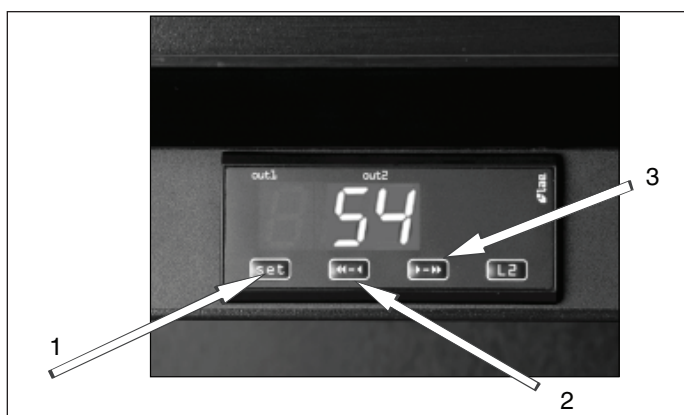

Figure 3-1.
1. Press button [1] (See Figure 3-1). While pressing button [1] go to next point (2).
2. Use buttons [2] and [3] (See Figure 3-1) to lower or increase the temperature.